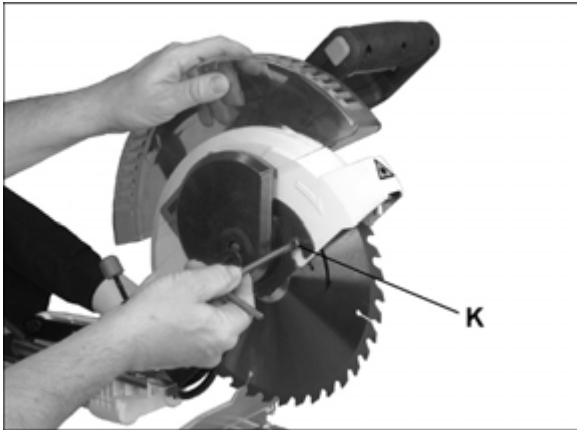

Figure 6-3
3. Raise lower blade guard to uppermost position and hold. See Figure 6-3.
4. Loosen cover plate screw (K, Figure 6-3) with provided crosspoint tool.
14. Rotate cover plate back to original position, until slot in cover plate engages completely with cover plate screw (K, Figure 6-3). While holding lower blade guard up as shown in Figure 6-3, tighten screw.